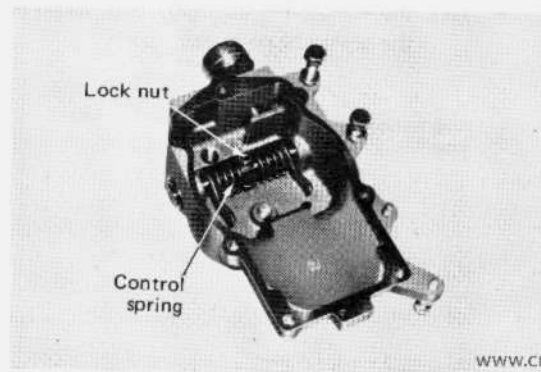

Fig. 3-169 Control Spring Removal
Remove the snap washer (1) at the opposite side of the lever. Next, as per Fig. 3-169, loosen the lock nut (4), remove the stop screw (8), and pull out the shaft (6) toward the side of the governor cover, then, the control spring (3) can be removed.